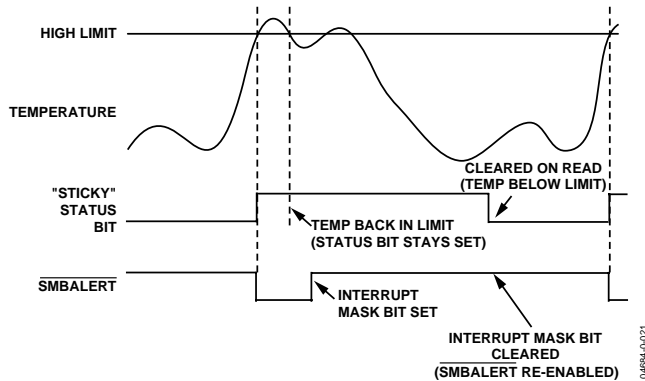

Figure 22. How Masking the Interrupt Source Affects $\overline{\text{SMBALERT}}$ Output
7. Periodically poll the status registers. If the interrupt status bit is cleared, reset the corresponding interrupt mask bit to 0. This causes the $\overline{\text{SMBALERT}}$ output and status bits to behave as shown in Figure 22.